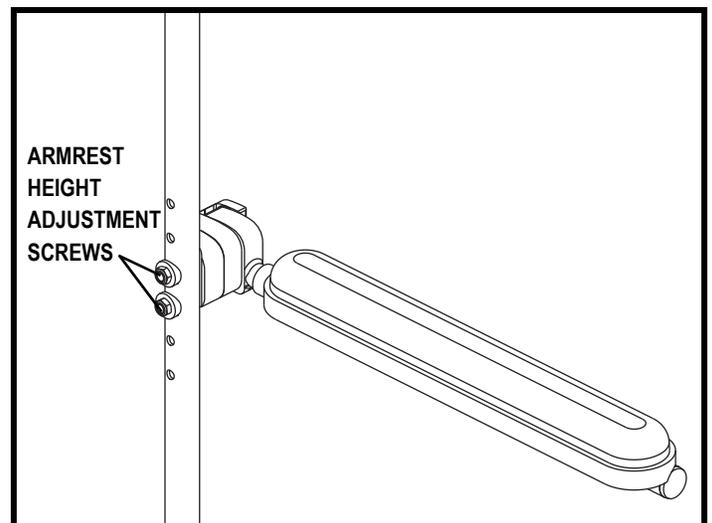

Figure 33. Flip-up Armrest Height Adjustment
1. Remove the armrest height adjustment screws. See figure 33.